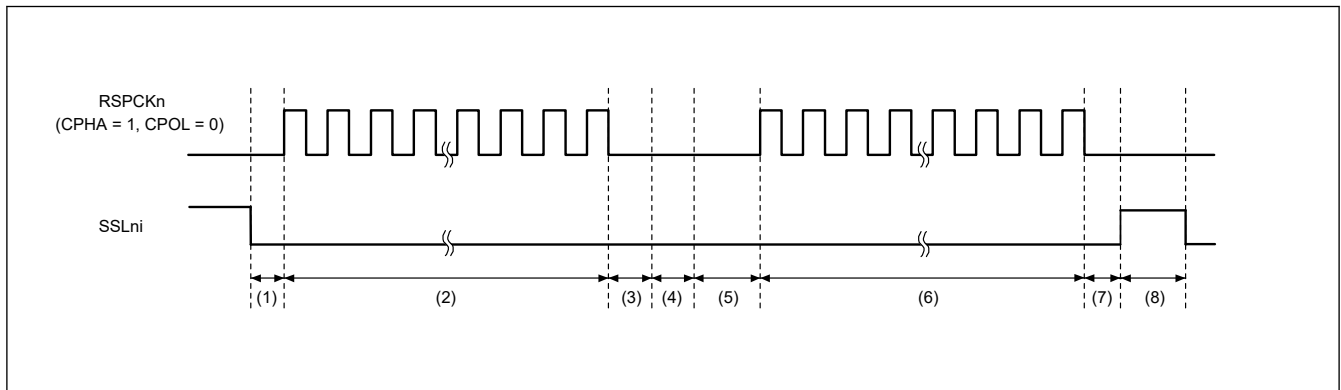

Figure 43.57 Example of burst transfer operation using the SSLKP bit (BFDS = 0, SPFRF = 0)
Figure 43.57 shows an example of an SSLni signal operation for a burst transfer that is implemented using the SPCMD0 and SPCMD1 register settings. This section describes SPI operations (1) to (8) shown in Figure 43.57.
If the SSLni signal output settings in the SPCMDm register where 1 is assigned to the SSLKP bit are different from the SSLni signal output settings in the SPCMDm register to be used in the next transfer, the SPI switches the SSLni signal status to SSLni signal assertion as shown in (5) in Figure 43.57. This corresponds to the command for the next transfer.